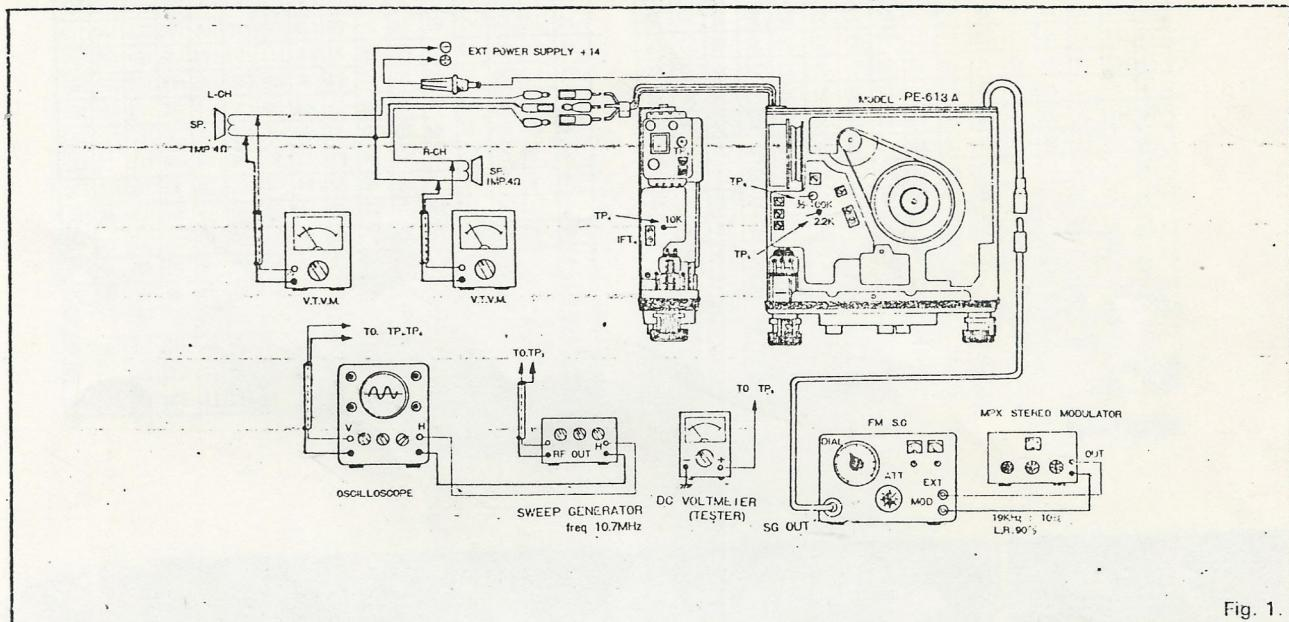

Fig. 1.
*ADJUSTMENT OF MW/ UKW/MPX RADIO SECTION (Refer to Fig. 1):
- (d) Attempt adjustments ④ and ⑤ above two or three times. The adjustment of the band widths are complete.
C. Adjustment of FM (UKW) IFT circuit: (Refer to Fig. 1)